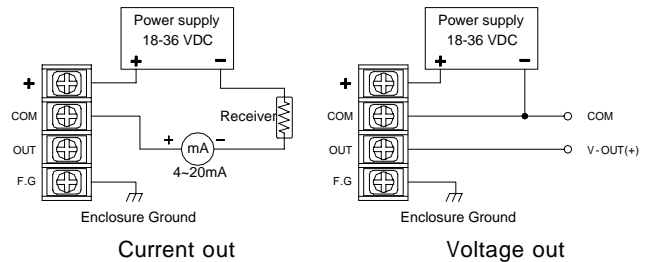

fig.2
3. Connect lead cable to power terminal matching polarity as shown in FIG.2 below. Take care that wrong wiring will damage the Instrument and malfunction (AC220V is not concerned to polarity)
1. Connect lead cable to current out terminal matching polarity as shown in FIG.2 below.